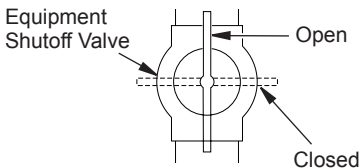

Figure 40 - Equipment Shutoff Valve
1. Close equipment shutoff valve (see Figure 40).
1. Open equipment shutoff valve (see Figure 40).